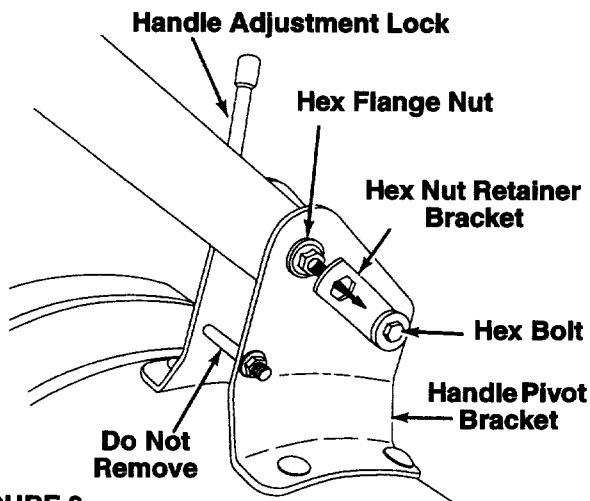

FIGURE 2.
1. Remove the handle mounting hardware from the handle pivot bracket. Do not remove the lower rear hex bolt and flanged lock nut. See figure 2.
3. Place handle assembly in position in the handle pivot bracket. Line up the holes in handle assembly with the holes (and slots) in the pivot bracket. See figure 2.
6. Place the hex flange nut between the top of the hex nut retainer bracket and the pivot bracket. See figure 2.